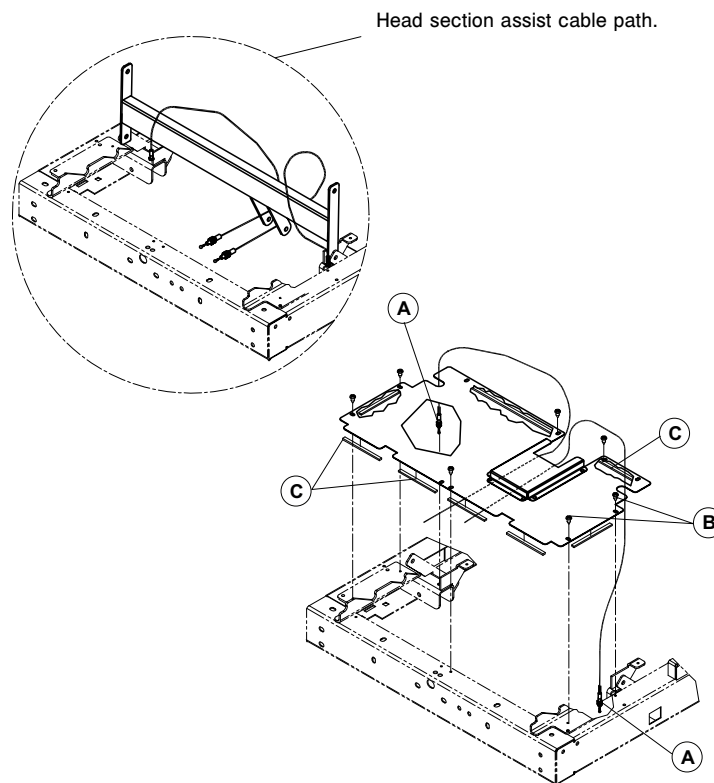

Figure 21 – Head section assist cable
5. Using two 7/16" combination wrenches, loosen the two nuts (A) at the ends of the defective cable. Take note of the cable path and how the ends are mounted at their tie points (Figure 21). Remove the cable.